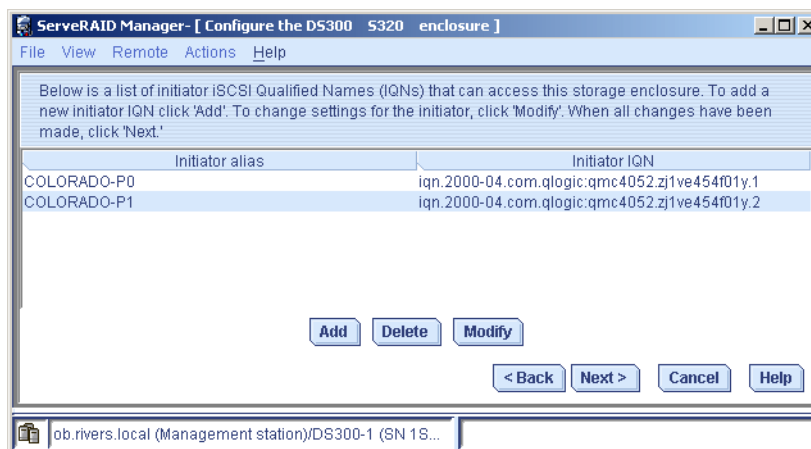

Figure 4-81 Defined iSCSI initiators and aliases
27. Click **Next** as shown in Figure 4-81.